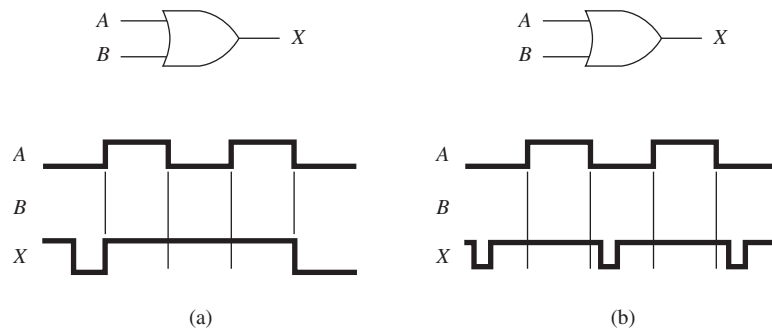

Figure P11
- C** 11. Repeat Problem 10 for the two-input OR gates shown in Figure P11.